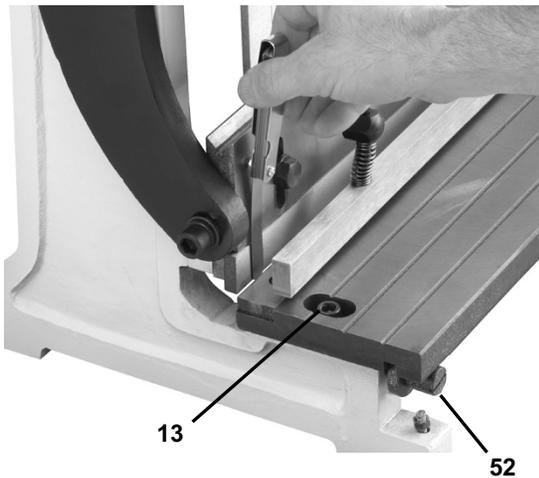

Figure 9-1
2. Measure along the length of the blades; check the gap of the moving blade and the fixed blade with a 0.002" (.05mm) feeler gauge as shown in figure 9-1.
3. Loosen the two cap screws (#13) that hold the table in place (fig. 9-1).